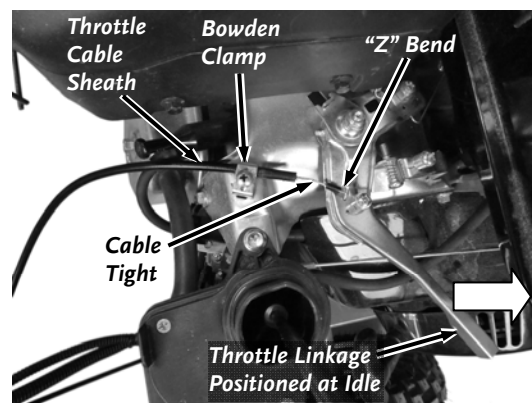

Figure 19
24. Loosen the Bowden Clamp with a Phillips Screw Driver or 5/16" Wrench and position the Cable Sheath under the Clamp (**Figure 19**). Hook the "Z" Bend end of the Throttle Cable in the Hole (hole furthest left) in the Throttle Linkage.
28. Reinstall the Air Filter Base (**Figure 19**). Ensure that the tab under rear of the Base locks fully into the Base.